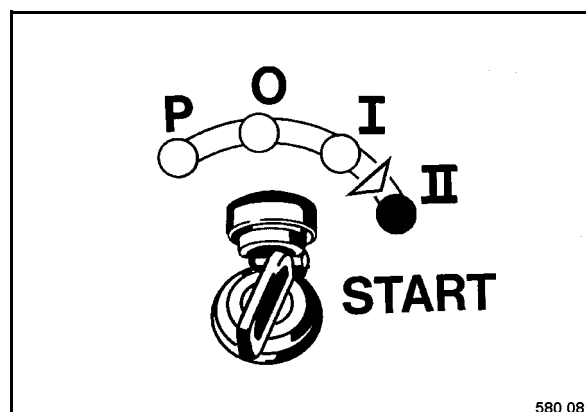

Fig. 90
- Turn the ignition key (Fig. 90) to position „II engine start.